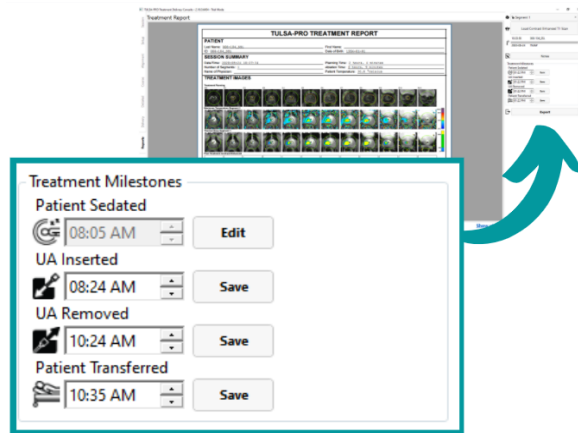

Figure 56: Treatment Milestones panel in Reports workspace
**MRI Technologist:** Use the Treatment Milestones panel in the *Reports* workspace (*Figure 56*) to record:
- The time when the Urologist removed the ultrasound applicator (UA), and